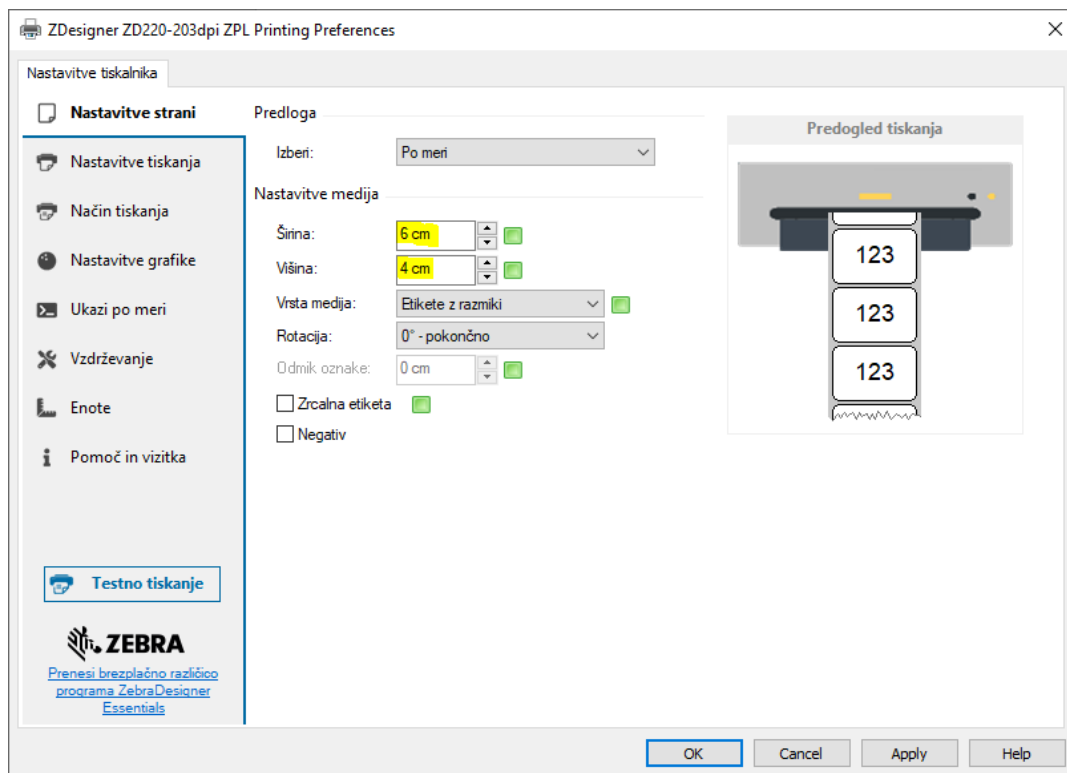

Figure 3: Page setup
- Figure 3: Page setup3
Once you click the **Printing Preferences**, a new window will open where you set up the **Page setup** (see Figure 3). In the fields indicated in yellow, enter the width and height of the medium and/or label you will use.